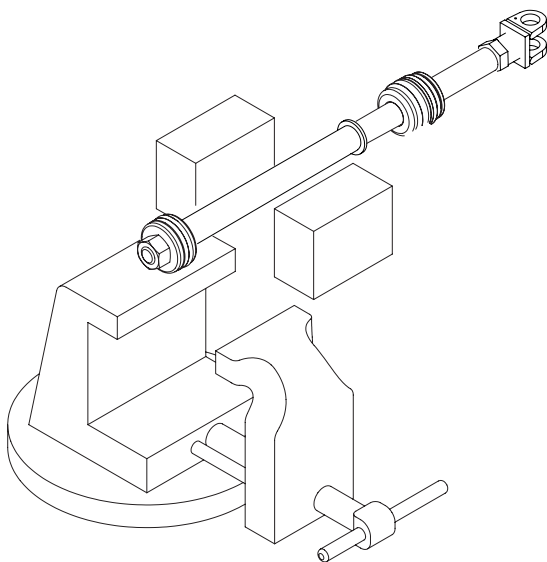

Figure 5-3, Cylinder Shaft
4. Clamp the rod assembly in a soft jawed vise on the wrench flats, not on the rod surface. If the rod does not have wrench flats use two pieces of wood on both sides of the rod to prevent scarring. (Figure 5-3)